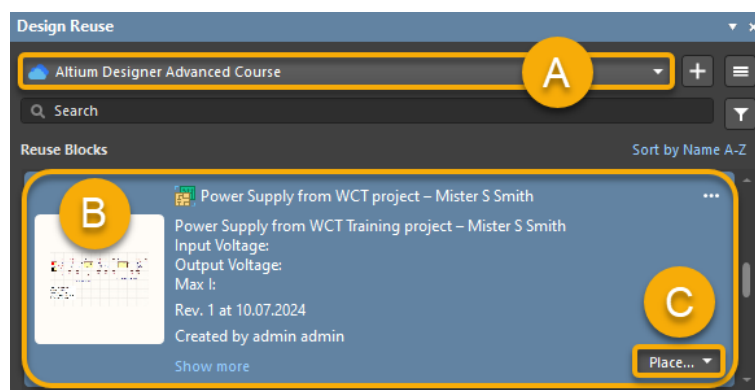

Figure 12. Design Reuse panel
39. In the *Design Reuse* panel, Figure 12: